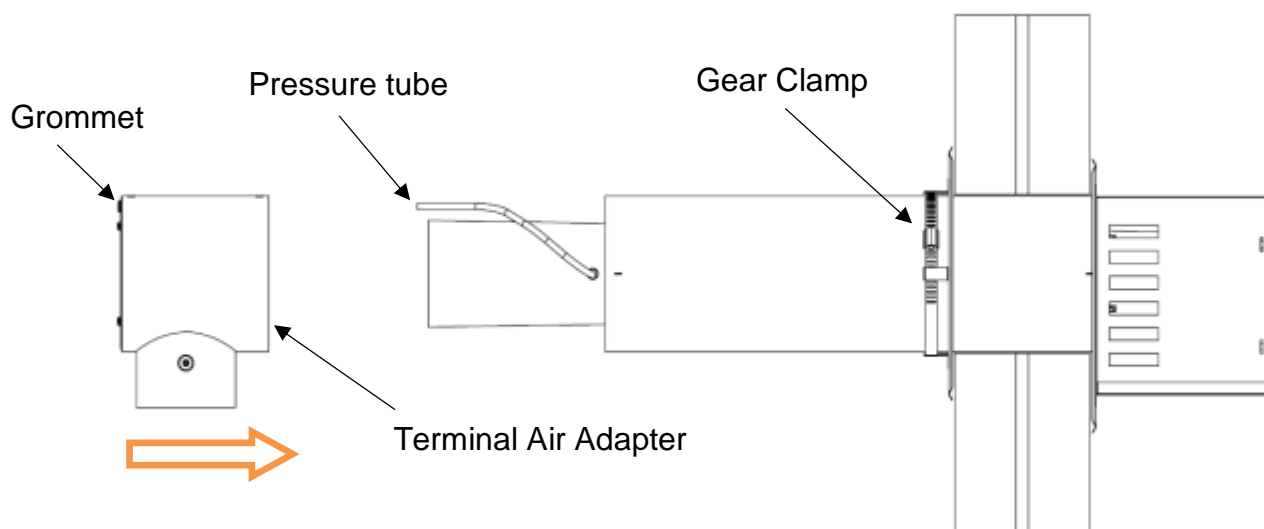

Figure 3 – Terminal installation (Step 7-8)
7. Tighten the collar around the terminal. (Figure 3)
8. Slide the **terminal air adapter** on the interior portion of the termination. Pay attention to align the **pressure tube** inside the **grommet** mount on the **terminal air adapter**. See figure 3.